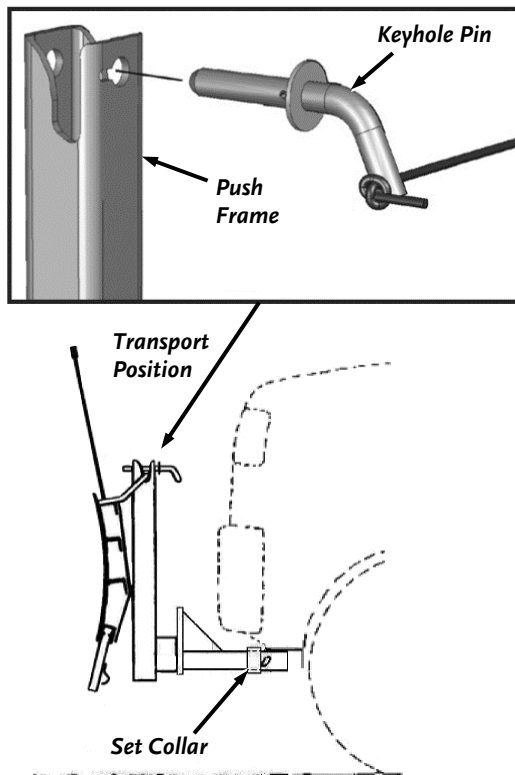

Figure 8
15. Hang blade assembly into retainer grooves on push frame (**Figure 8**).